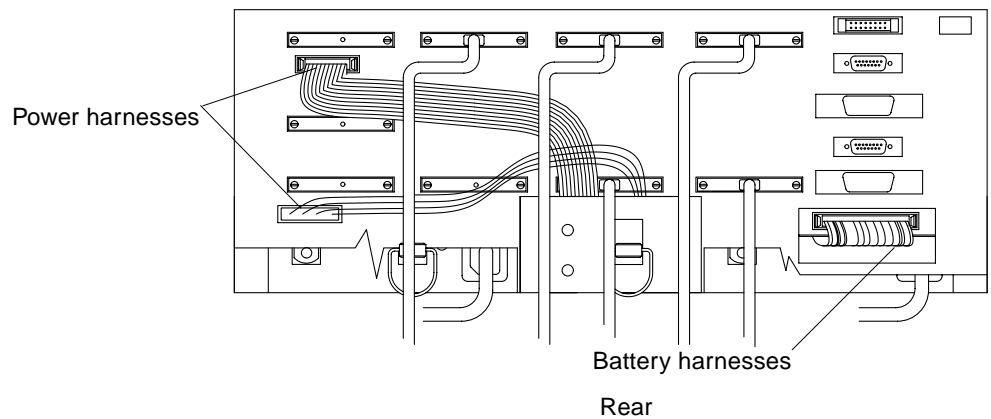

FIGURE 6-6 Battery and Power Harnesses on a SCSI Controller Module
3. **Disconnect the battery and power harnesses on the rear of the controller module.** FIGURE 6-6 shows the battery and power harnesses on the rear of a SCSI controller module.
12. Connect the battery and power harnesses (FIGURE 6-6).